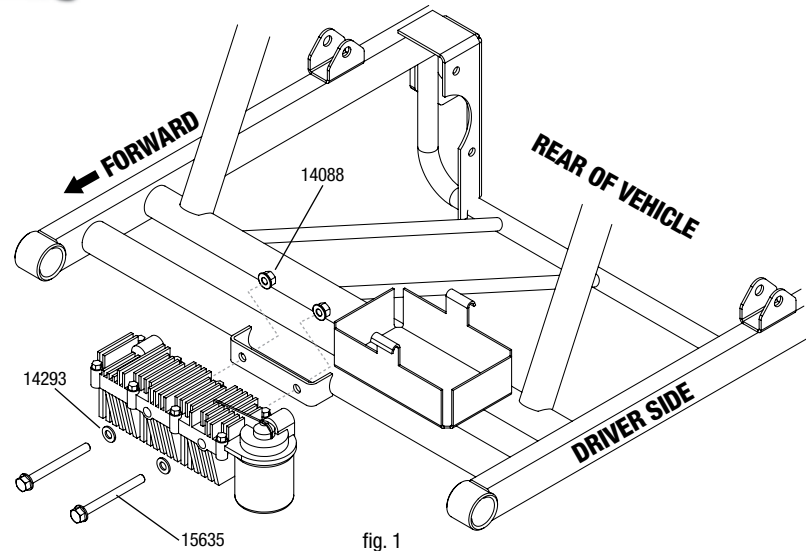

fig. 1
Using the 13mm wrench and socket, mount the oil cooler assembly to the mounting bracket located on the forward crossmember of the swing arm using the fasteners provided; (2) 15635, (2) 14293, and (2) 14088. The oil filter will be on the left / driver's side of the vehicle. Refer to figures 1 and 2.